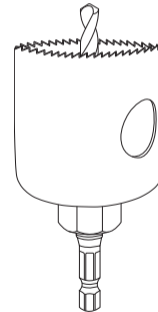

Fig. 2
RECESSED MOUNTING (Fig. 2 & 3)
1. Drill a hole through cabinet or shelf with a 2.5 in. hole saw and drill (Fig. 2).